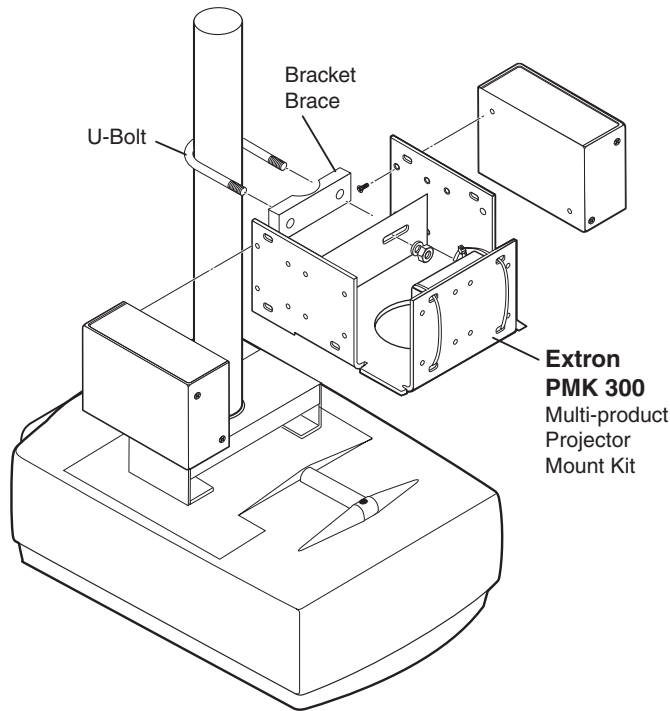

Figure 2-8 — Projector-mounting the YCS 100 using the PMK 300 Projector Mount Kit
2. Mount the YCS to one of the bracket's three mounting plates. It can be vertically mounted facing either up or down, whichever you prefer. See figure 2-8, below.